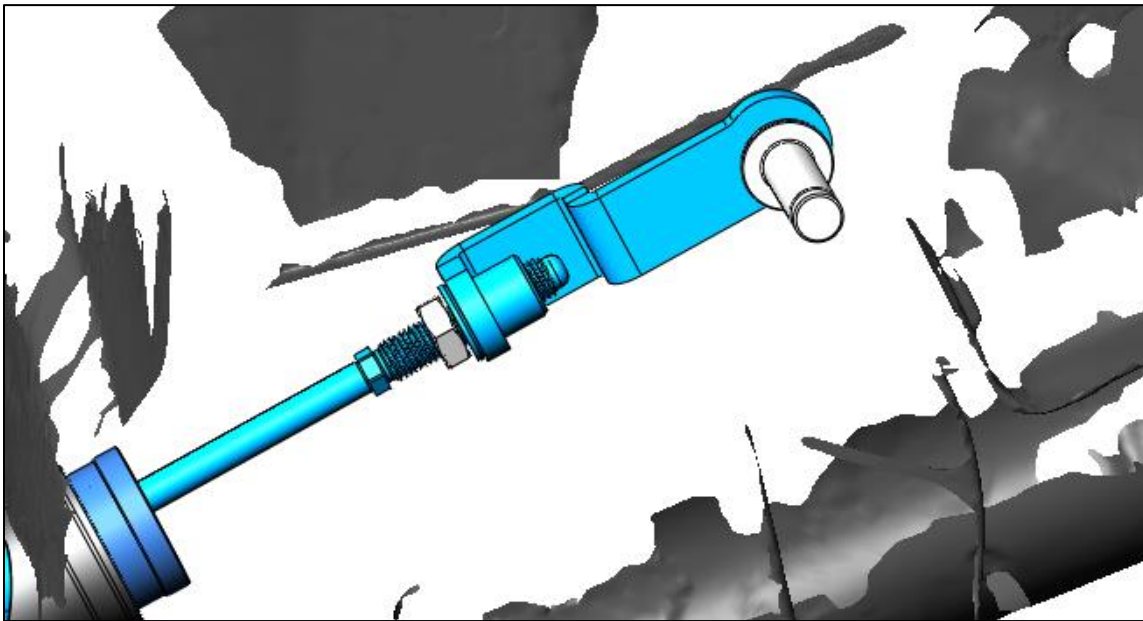

Figure 5: Clutch Rod Linkage Assembly
21. Install the 5/16" thin hex nut and clutch pedal linkage onto the clutch master cylinder as shown in Figure 5.